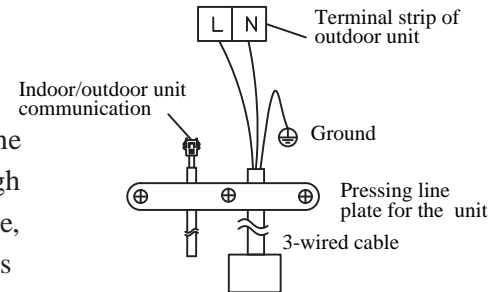

Figure 6
- It must be reliable grounded as showed in Figure 6 to avoid electric shocking. Make the ground wire connect the longer wire core than others and be the final one to be tightened under external force.